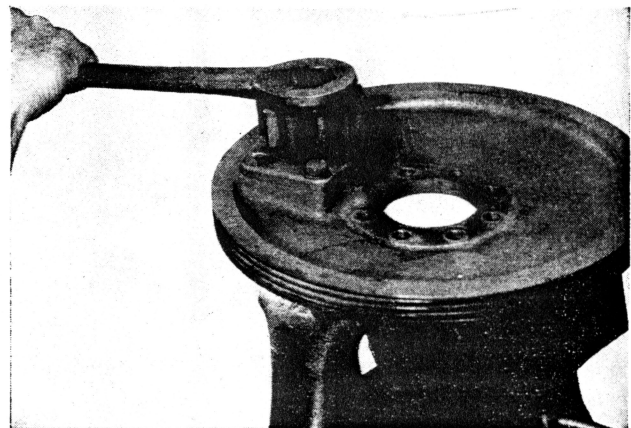

Fig. 15
1. Remove cotter key and drive shaft nut. (Refer to Fig. 15.)
5. Install gear on shaft and draw up solidly with drive shaft nut. (Refer to Fig. 15.)